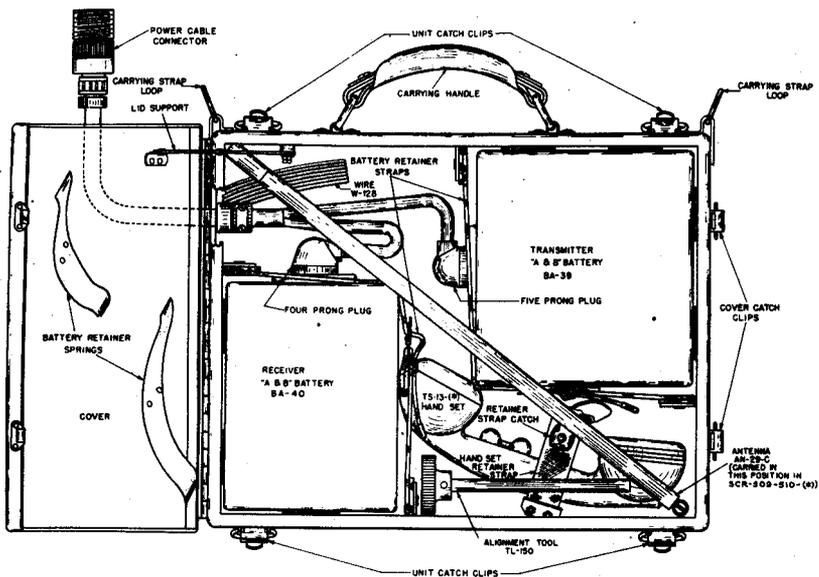

Figure 5.—Case CS-79-(\*) , layout.
1. Figure 5 illustrates how Batteries BA-39 and BA-40, contained in Case CS-79-(\*) , are held securely in place with straps. In addition, space is provided for carrying the handset, alignment tool, antenna, and coil of insulated wire for use as antenna.